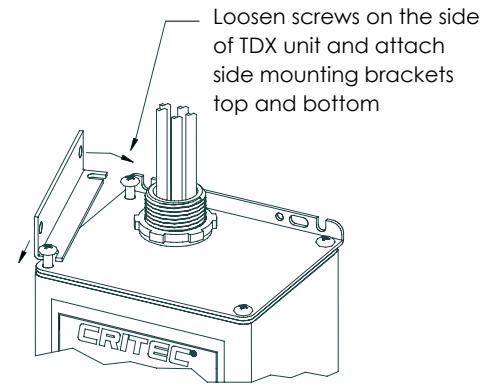

Figure 1
2. Loosen side screws in both TDX end plates as shown in Figure 1. Screws should be loosened on the side to be fixed to load center only. Install TDX Side Mounting Brackets and retighten TDX screws. There is no need to remove the screws.